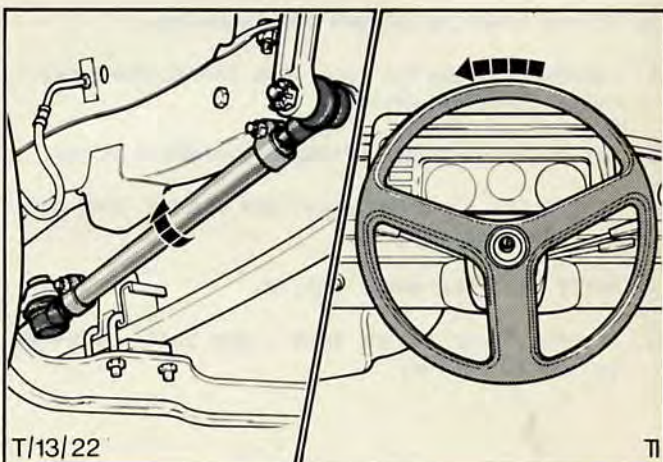

Fig.50. Steering wheel misaligned anti-clockwise, rotate drag link clockwise.
- Rotate if necessary through the smallest angle until the clamp bolts are horizontally above the drag link Fig.50.